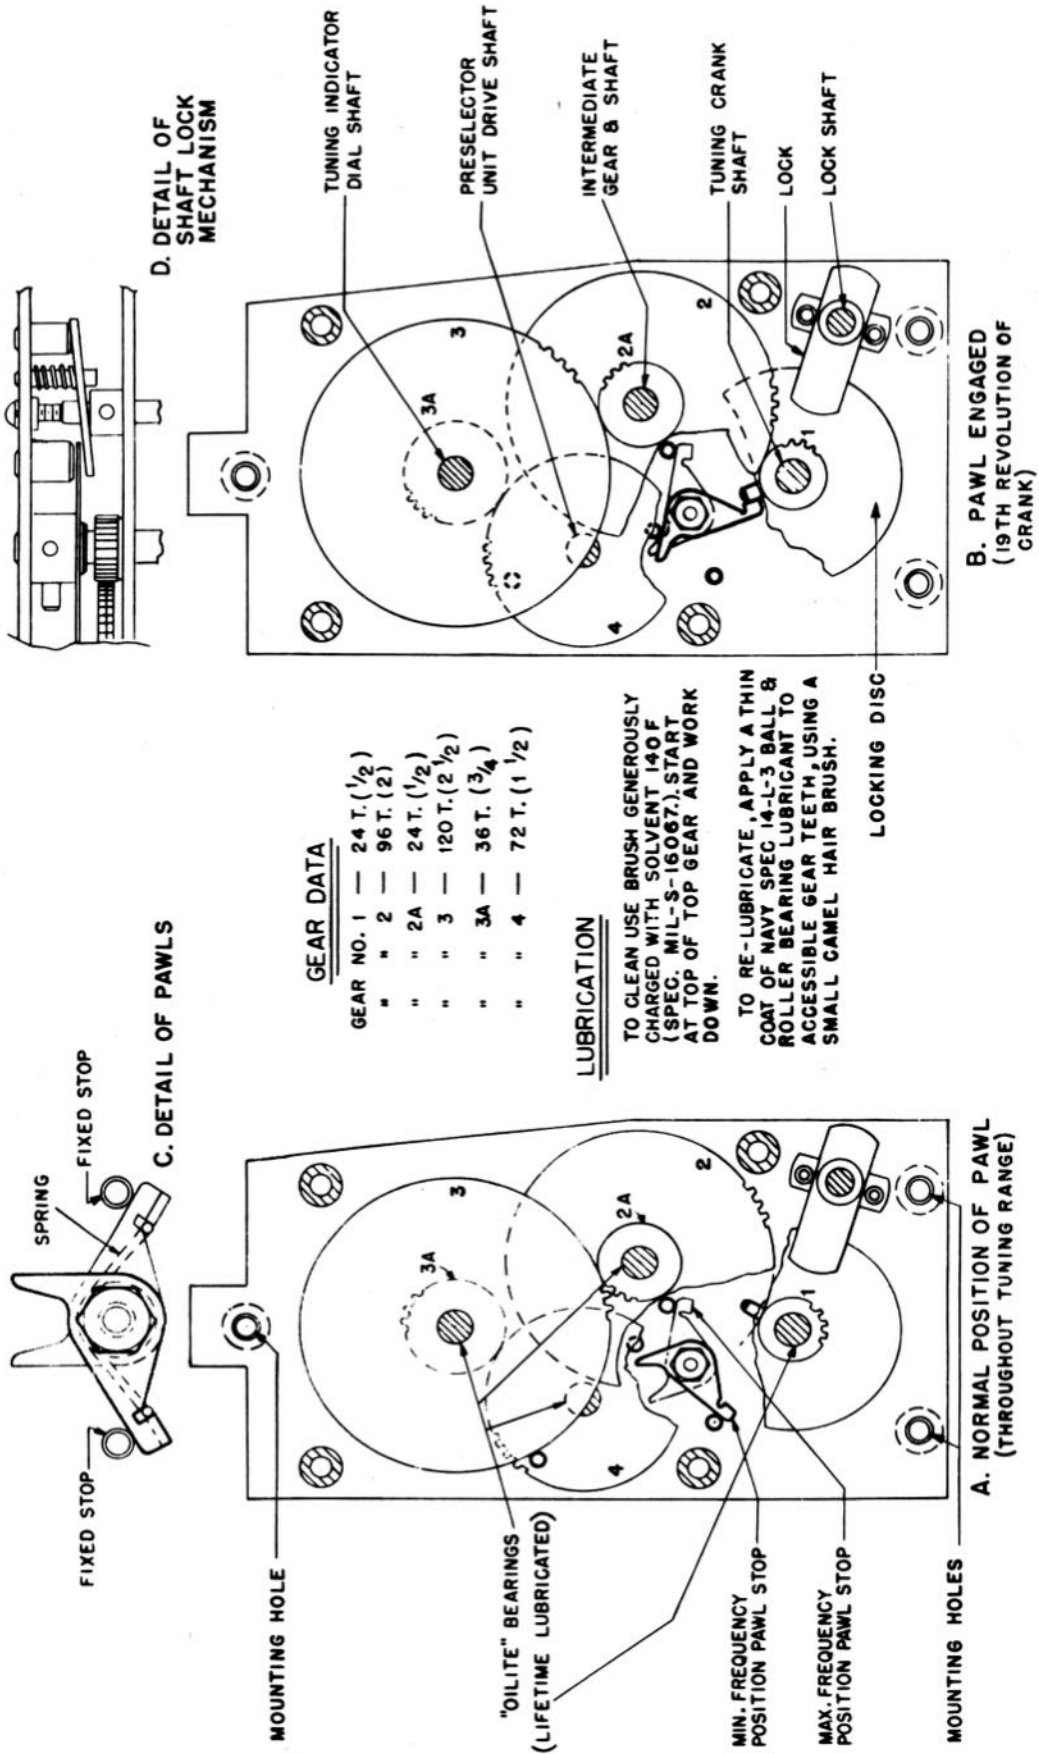

Figure 6-1. Dial-Drive Mechanism, Details and Lubrication
b. DIAL DRIVE MECHANISM.—If operation of the dial-drive mechanism becomes sluggish due to accumulated dust and grit in the gears, it may be advisable to clean and relubricate the gears, as explained in figure 6-1. To clean the gears, use a small brush generously charged with Dry Cleaning Solvent 140F (FED. SPEC. P-5-661b) and start with the top gear and work down. To relubricate, apply a coating of the above-mentioned lubricant to the teeth of the accessible gears, using a suitable camel's-hair brush (Standard Navy Stock Number 38-B-725).
| Dial-drive mechanism | Observe smoothness of dial operation, and inspect gears in drive mechanism visually for evidence of grit and dirt in teeth. | If operation of dial drive indicates that the gears are sticky or binding, clean and re-lubricate in accordance with par. 3, this section, and figure 6-1. |